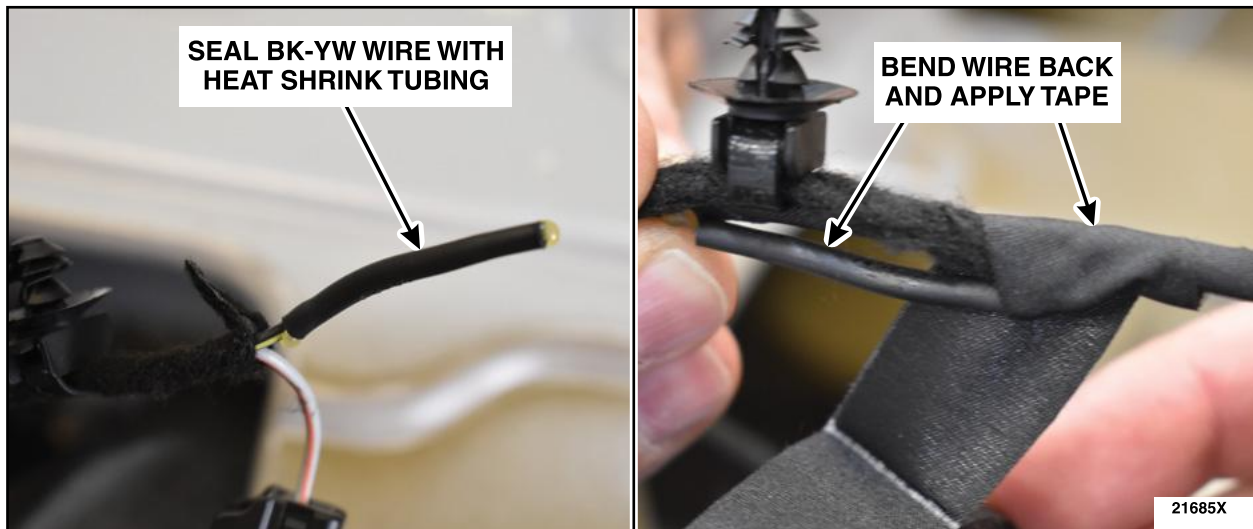

FIGURE 24
28. Seal the BK-YW wire using heat shrink tubing. Bend back the sealed wire and secure using Coroplast® 837 or Equivalent Electrical Wire Harness Tape. See Figure 24.